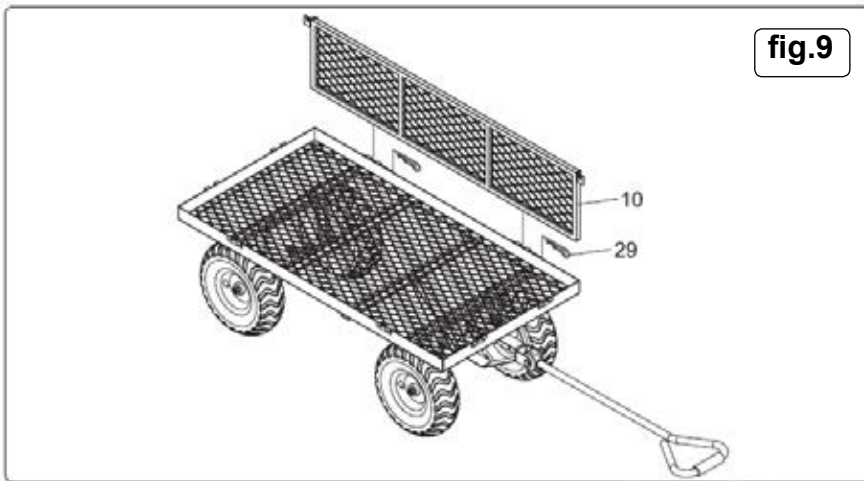

fig.9
5.9. LEFT AND RIGHT SIDE PANEL ASSEMBLY See fig.9